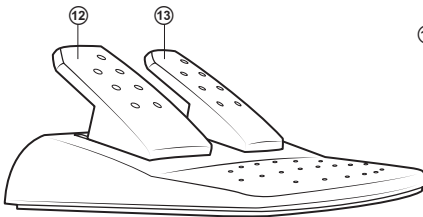

Fig. 2. Foot pedal unit
- Connect pedal unit (Fig. 2) to the device via cable of the pedal unit to RJ-11 jack ⑭, then connect USB cable ⑮ of the device to the USB port of the computer.